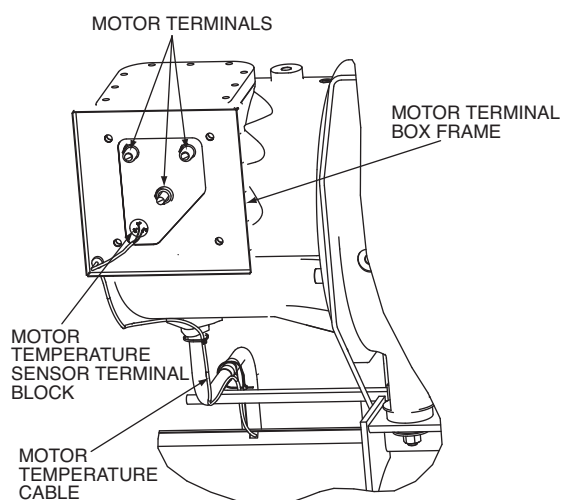

Fig. 17 — Motor Terminals
4. Disconnect the motor leads from the motor terminals (Fig. 17). Note the position of the motor terminal cable lugs so they can be reinstalled with sufficient clearance away from surrounding structure.
5. Remove the motor temperature sensor leads (Fig. 17), the motor ground lead, and the bolts that secure the VFD enclosure to the terminal box transition piece.